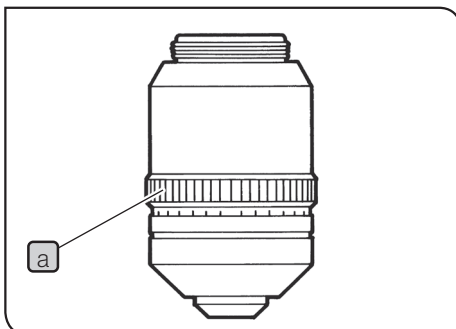

Fig.41
- If the cover glass thickness is known, set the correction collar **a** to that scale value. (Fig.41)